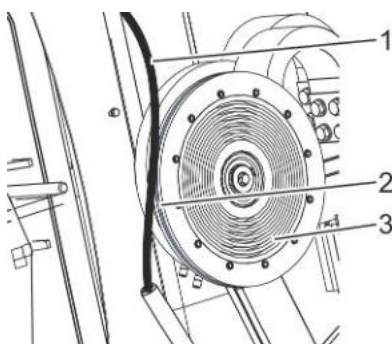

Fig. 43: Welding roller
4. Lay the circumferential wire (Fig. 43/1) into the groove (Fig. 43/2) of the welding roller (Fig. 43/3).